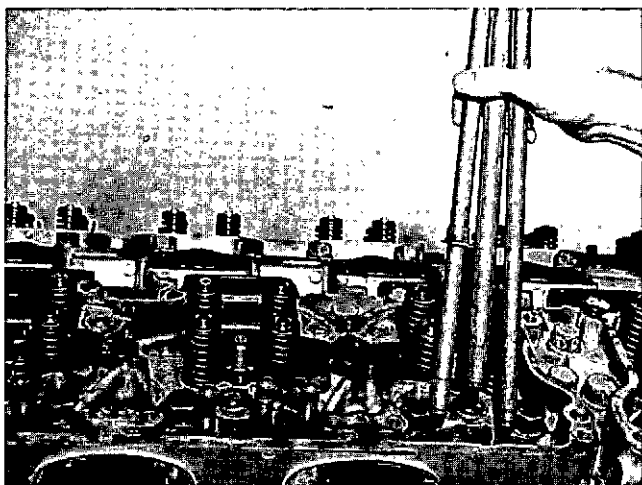

Fig. 0-33, V41499. Removing push tubes
2. Remove push tubes by lifting them from their tappets. Fig. 0-33.